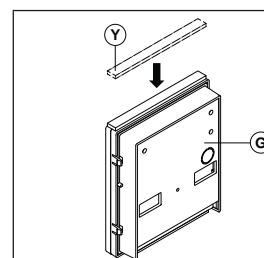

Fig. 11
Apply the (Y) seal as shown in Fig. 11.